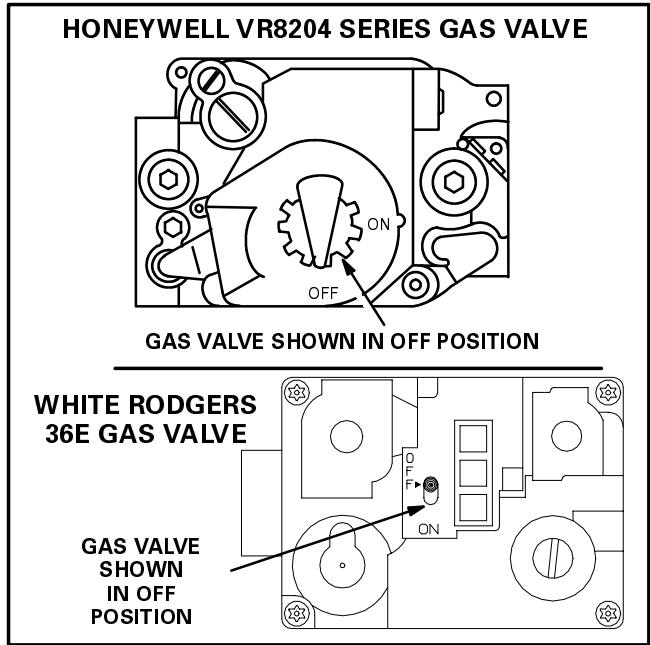

FIGURE 3
Gas Valve Operation (Figure 3)
- 6 - On Honeywell VR8204 gas valves, turn knob on gas valve clockwise to **OFF**. For White Rodgers 36E gas valves, move switch to **OFF**. Do not force. See figure 3.